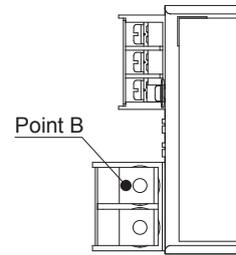

Fig. 6.3 Temperature measurement point
- When wiring the load wire, select the wire in consideration of the heat generation so that the temperature of points B in Fig. 6.3 is lower than the temperature specified in Table 6.2 - Table 6.4.